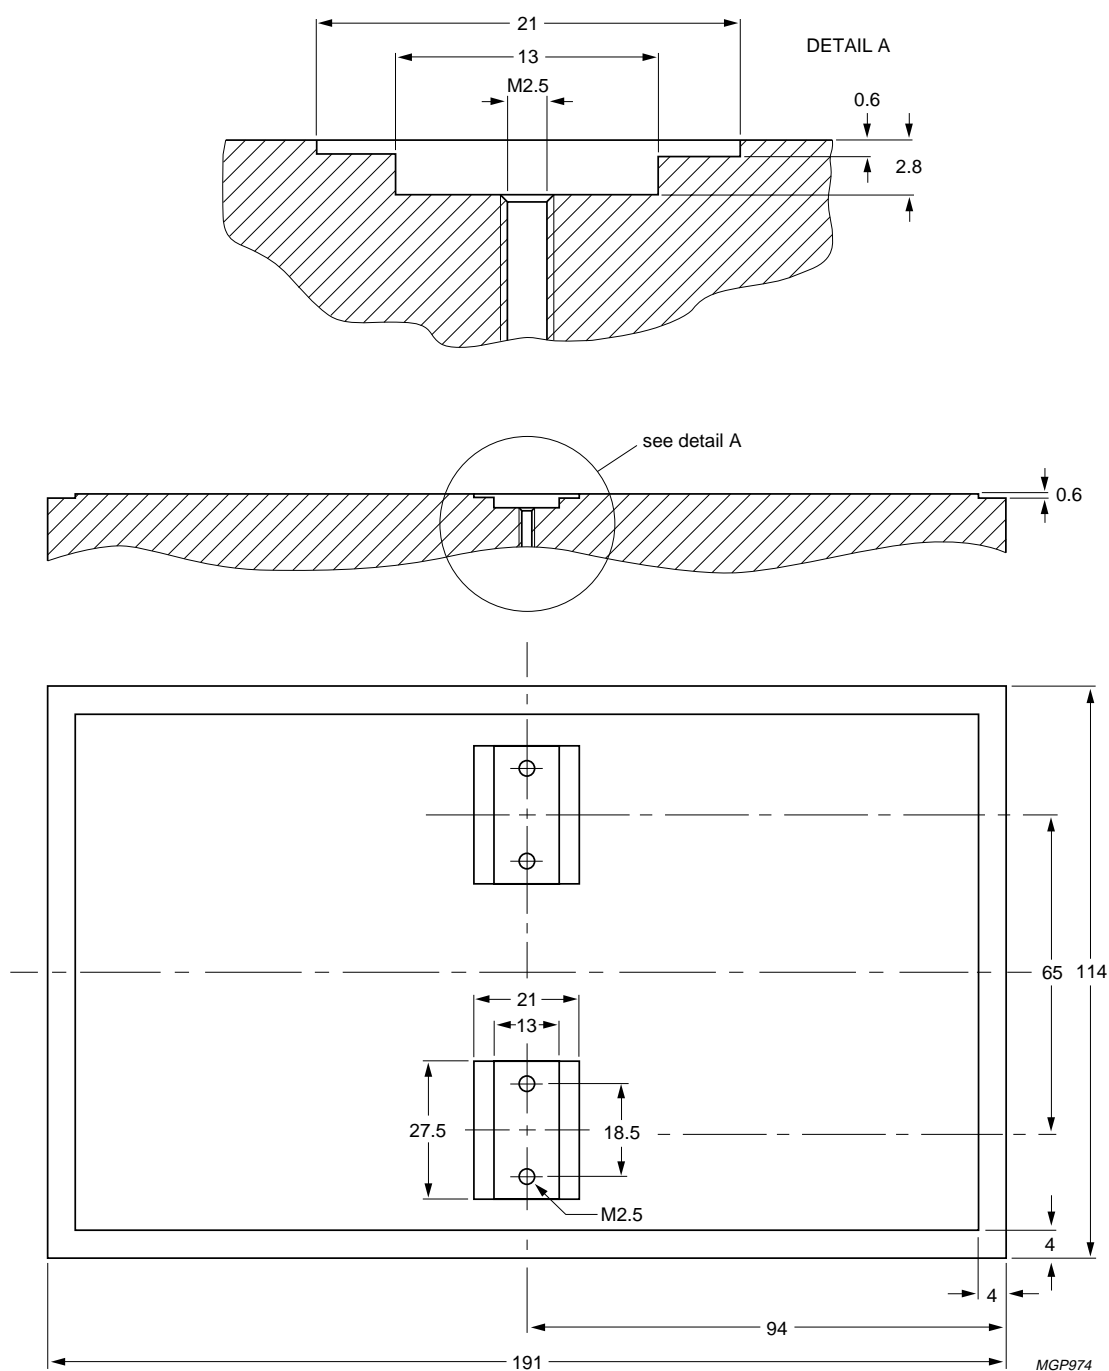

Fig.4 Heatsink savings.
- Rectangular holes of 2.8 mm deep have been mould in the heatsink because the transistor leads have to be soldered on the printed-circuit board. Also it was necessary to make savings of 4 mm wide and 0.6 mm deep at the positions of the straps on the printed-circuit board. The transistors have been fastened with M 2.5 screws in the heatsink (see Fig.4).